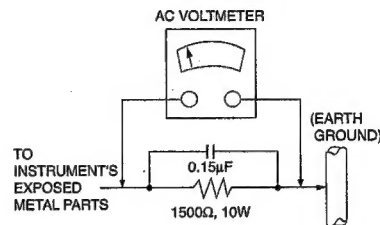

Fig. 1
- 5-2 Connect a 1500 ohm, 10 watt resistor, paralleled by a 0.15uF capacitor between each exposed metallic part and a good earth ground(as shown in Fig.1).